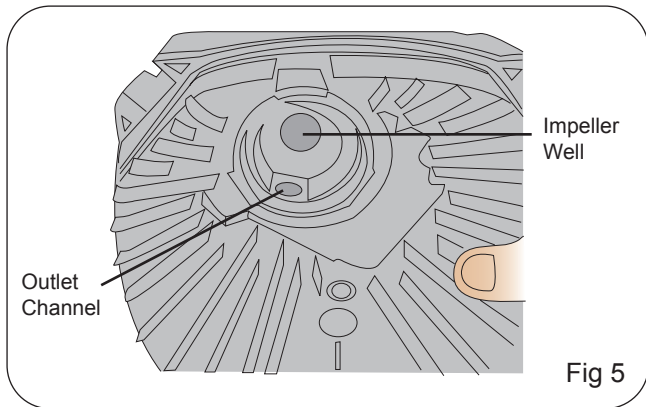

Fig 5
16. Outlet option 2 is the Duck Bill outlet. This can simply be set up anywhere along the back wall or side wall of the aquarium. Refer to Fig 5 for assembly of the duck bill outlet.
15. Clean the impeller well and the outlet channel using a double ended pipe brush. Fig 5